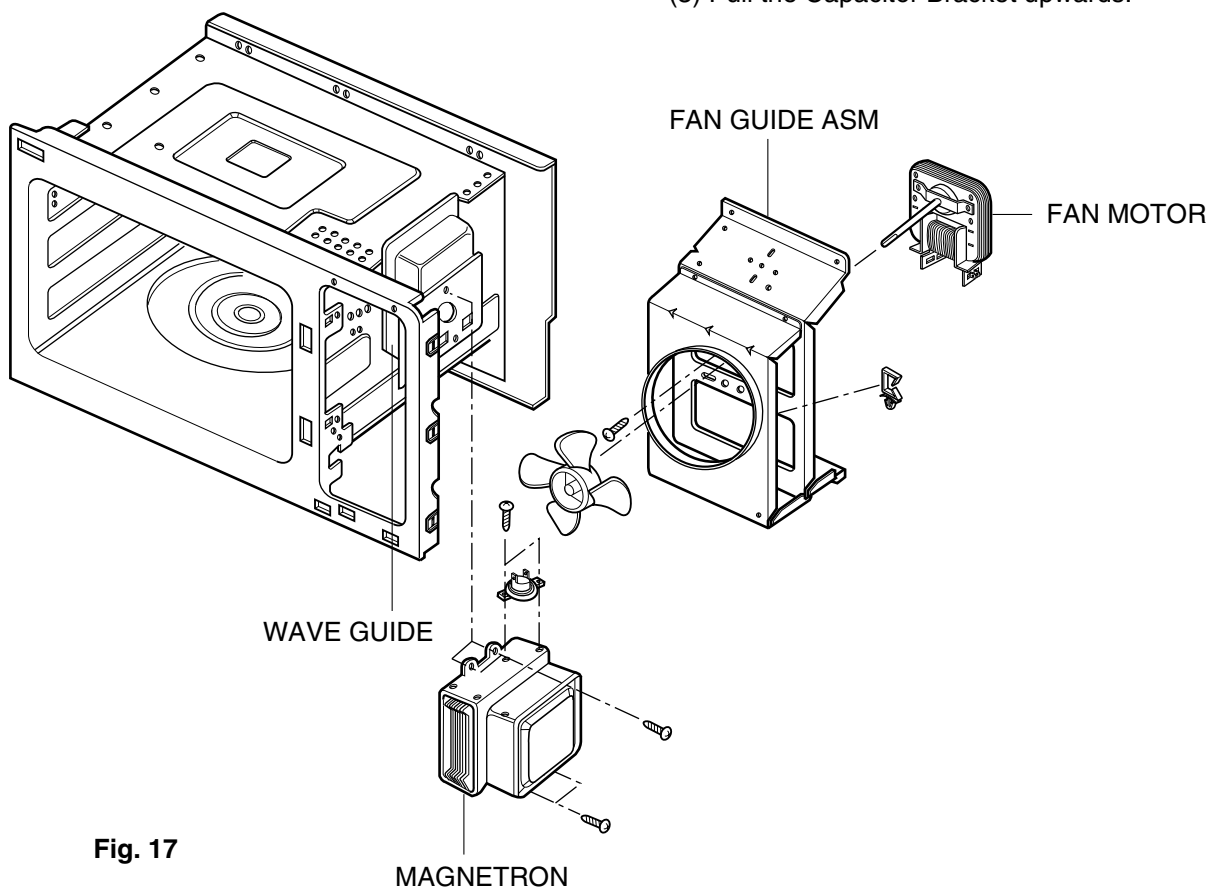
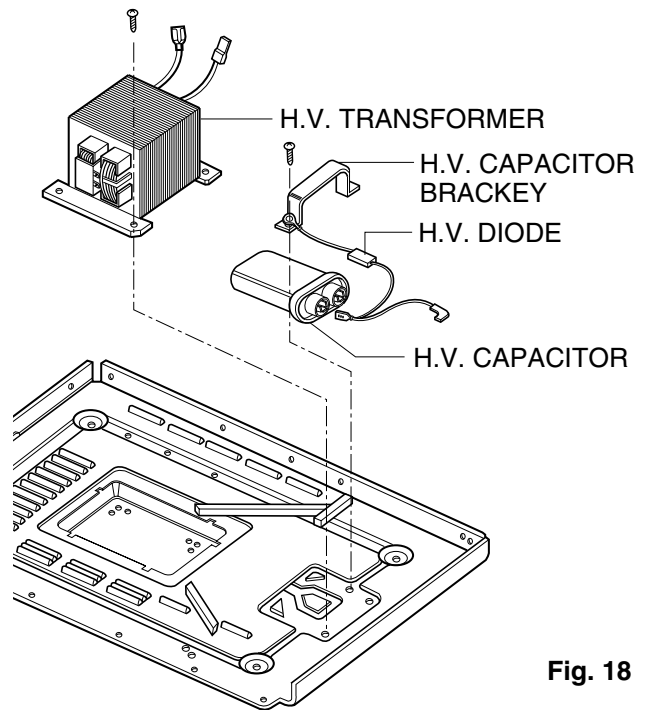

Fig. 17
Fig. 18
D. REMOVING MAGNETRON (FIG. 17)
- (1) Disconnect the wire leads from the magnetron terminals.
- (2) Remove the two screws holding the air duct to magnetron.
- (3) Remove four screws securing the magnetron to the wave guide.
E. REMOVING COOLING FAN MOTOR (FIG. 17)
- (1) Remove the power supply cord from the oven and disconnect lead wire from the Fuse Holder.
- (2) Disconnect each two lead wires from the Fan Motor.
- (3) Remove three screws securing the Fan Guide Asm to the back cover and lift up the Fan Guide Asm.
- (4) Remove two screws securing the Fan Motor to the Fan Guide after pulling out the fan from the Fan Motor.
F. REMOVING HIGH VOLTAGE DIODE AND HIGH VOLTAGE CAPACITOR. (FIG. 18)
- (1) Disconnect lead wires from H.V. Trans and Magnetron.
- (2) Remove one screw securing the capacitor bracket and one lead wire of H.V. Diode to the base plate.
- (3) Pull the Capacitor Bracket upwards.
G. REMOVING HIGH VOLTAGE TRANSFORMER (FIG. 18)
- (1) Disconnect the wire leads from the transformer to the magnetron and H.V. Capacitor.
- (2) Remove four screws securing the H.V. Transformer to the base plate.
- (3) Tilt the top of the H.V. Transformer towards you, pull slightly and lift it up.